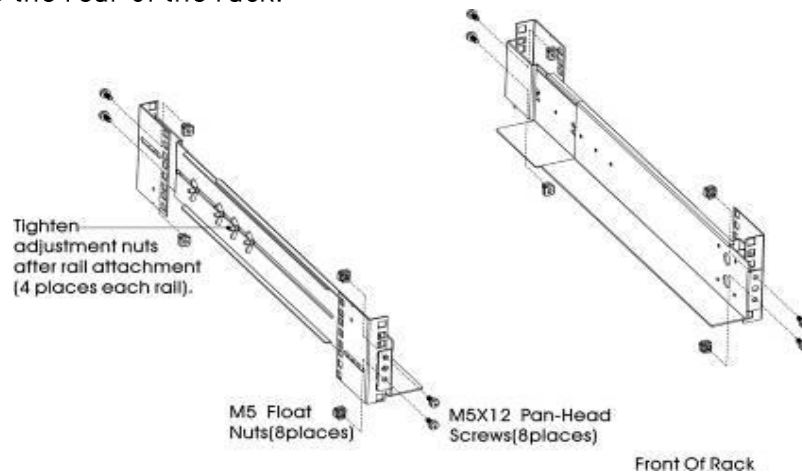

Figure 2 Fixing the Rails
- b) □ Select the proper size in the rack for positioning the UPS (see Figure 2). The rail occupies four positions on the front and rear of the rack.